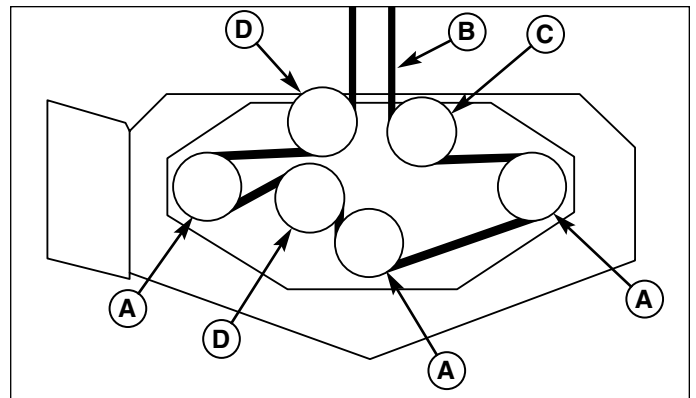

Figure 34. Mower PTO Belt Routing
5. Remove the old belt and replace with a new one. Make sure the V-side of the belt runs in the pulley grooves (Figure 34).